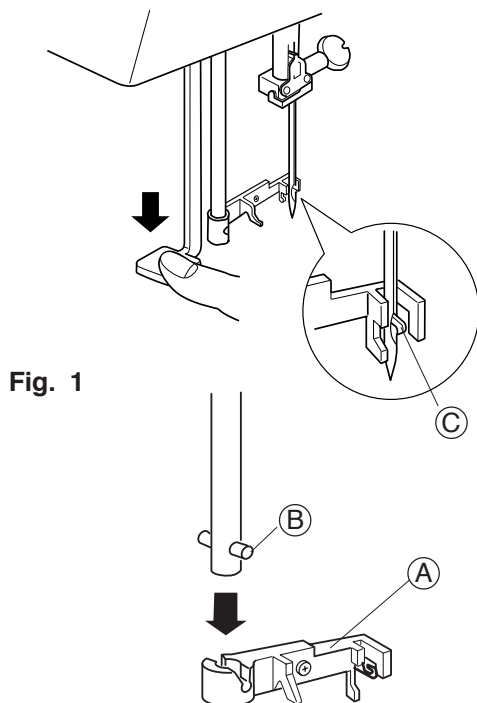

Fig. 1
To replace (Fig. 1):
2. Push down the Threader supporter plate (A) to remove from the Pin (B). (Fig. 1)
3. To attach the threader supporter plate, match the groove of the Threader supporter plate (A) with the pin (B), and then push it up to insert.